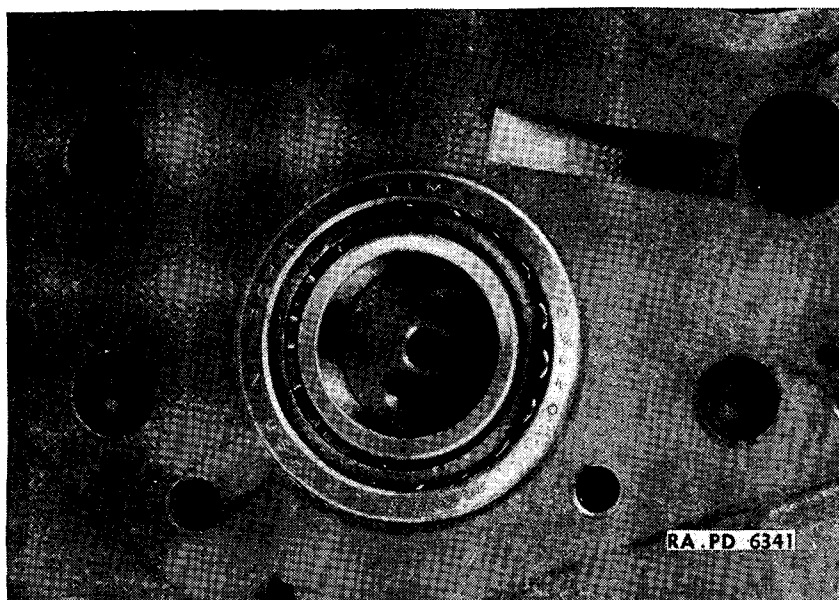

FIGURE 118.—Transfer case intermediate shaft in front bearing.
(11) Remove intermediate shaft—brass drift, hammer. Set wooden block against rear side of underdrive gear between case and gear. Press or drive on front end of intermediate shaft. Block will prevent gear from moving and shaft can be driven through gear. Drive shaft far enough to free it from front bearing cone and rollers (A214965), and from underdrive gear (fig. 118). Bearing cone can